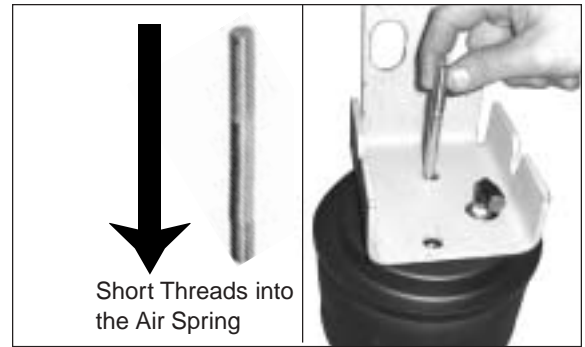

Figure 3
3. Align the right hand upper bracket (B2) with the mounting holes in the air spring and install the 3/8" stud (M) in the outboard tapped hole with the short threaded portion into the air spring (Figure 3). *Note: Finger tight only. Do not over tighten.*